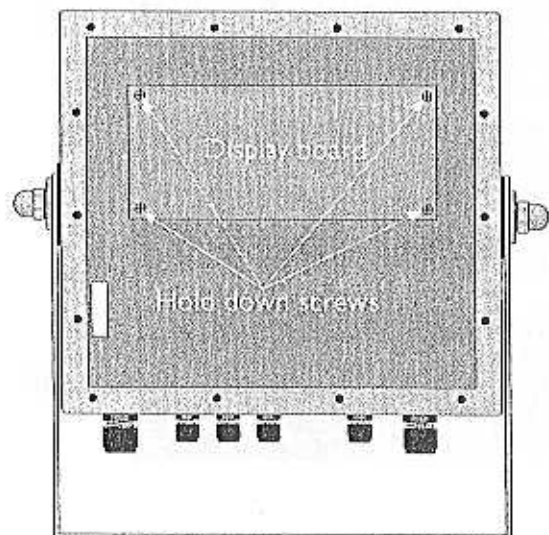

Figure 13
5. If you need to remove the display board, remove the four hold down screws shown in Figure 13